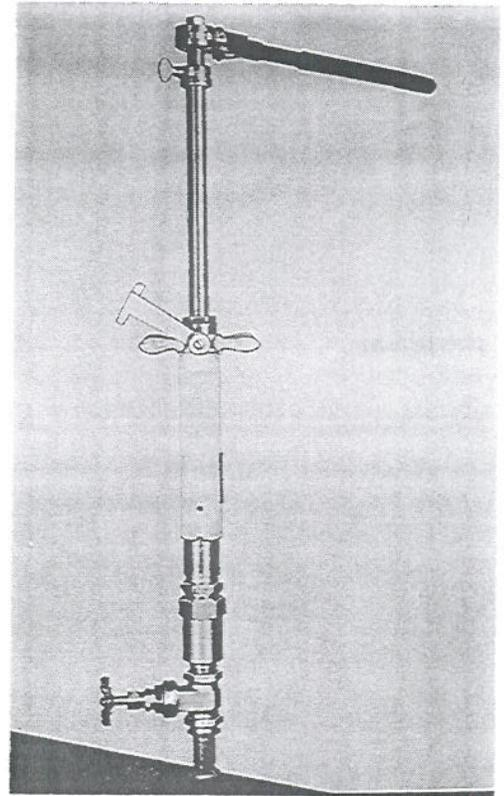

FIGURE 39
7. Place drilling machine on gate valve and tighten machine adapter nipple into gate valve. **Figure 39.**